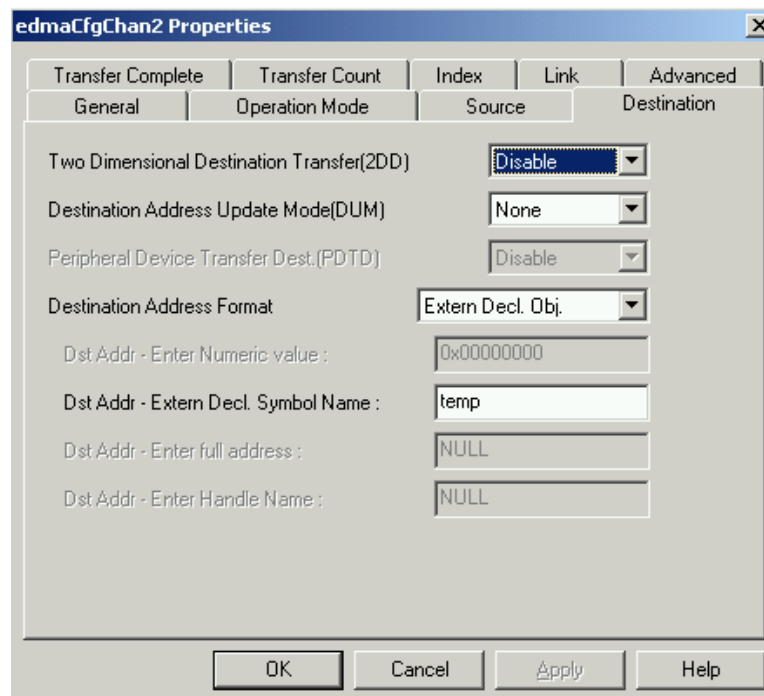

**Figure 3. EDMA Chan2 Operation Mode Tab Options**
2. EDMA channel 2 is used to trigger a new conversion. Right click on edmaCfgChan2. In the General tab, you may choose to enter a comment saying it is a start conversion channel. In the operation mode tab select the options shown in Figure 3. Enabling Frame Sync causes an EDMA transfer when a Timer0 event occurs. In this case it is a 16-bit read into a variable called temp.